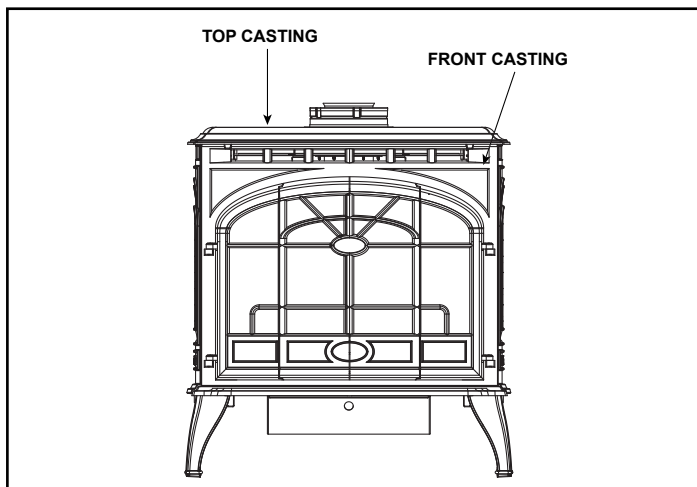

Figure 10.1 Remove Casting
1. Remove front casting by grasping it at the top and lifting up. If the stove is already installed in a top vented configuration, the top casting will need to be lifted slightly to accommodate removal of the front casting. See Figure 10.1. Set front casting aside on prepared work surface.
Reinstall the glass frame by engaging the latches at the bottom corners of the firebox with the glass frame tabs. See Figure 10.1 and 10.2 for reference. Reinstall front casting.